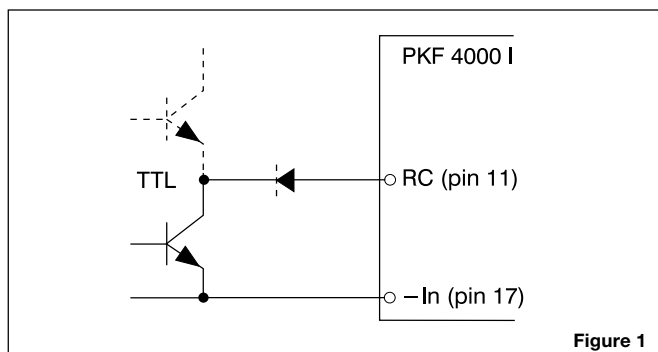

Figure 1
Turn-on or turn-off can be realized by using the RC-pin. Normal operation is achieved if pin 11 is open (NC). If pin 11 is connected to pin 17 the power module turns off. To ensure safe turn-off the voltage difference between pin 11 and 17 shall be less than 1.0 V. RC is TTL open collector compatible output with a sink capacity >100 μ A (see fig. 1).